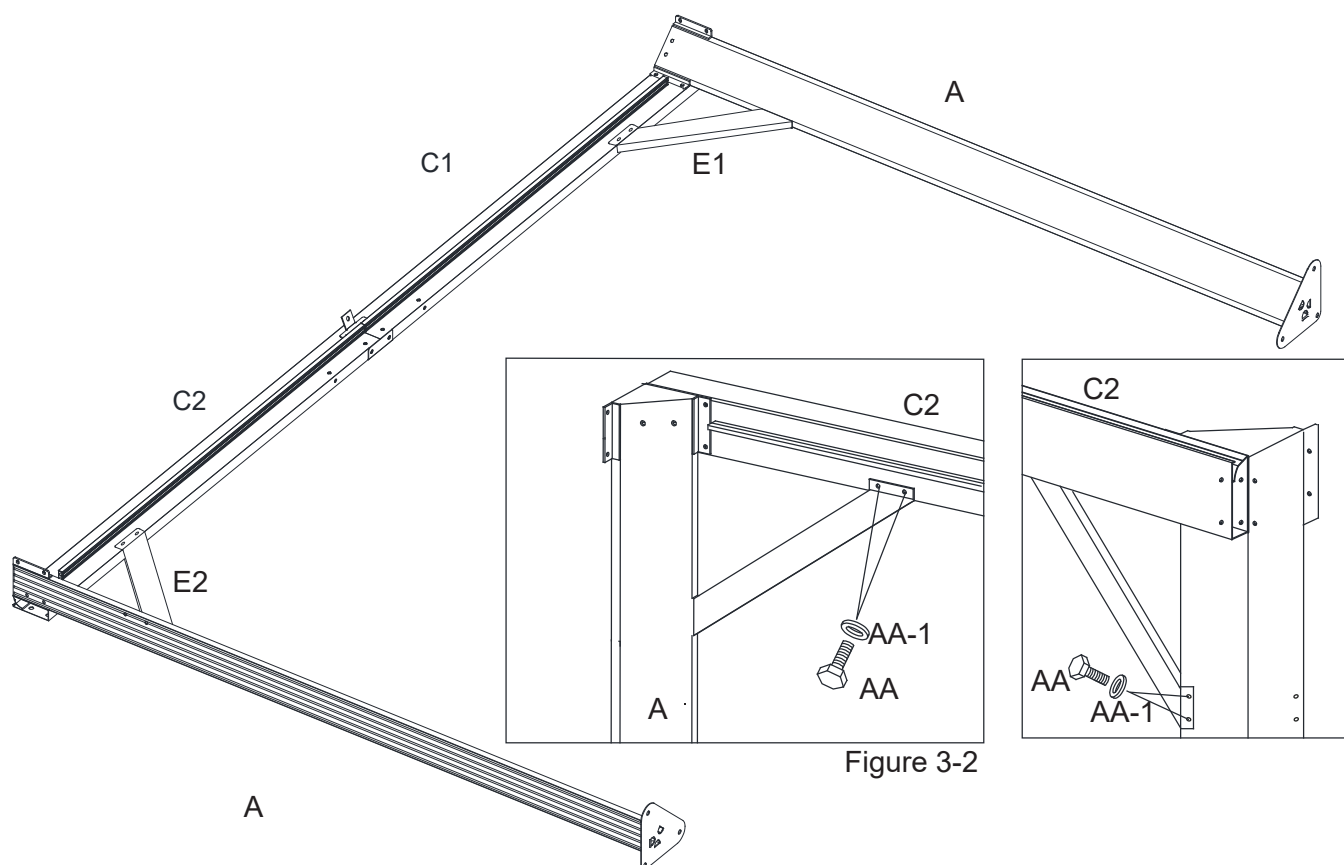

Figure 3-2
3.2: Attach Support Bars (E1/E2) to Corner Post (A) and to Lintels (C1/C2) with Bolts (AA) and Steel washer (AA-1). See Figure 3-2.